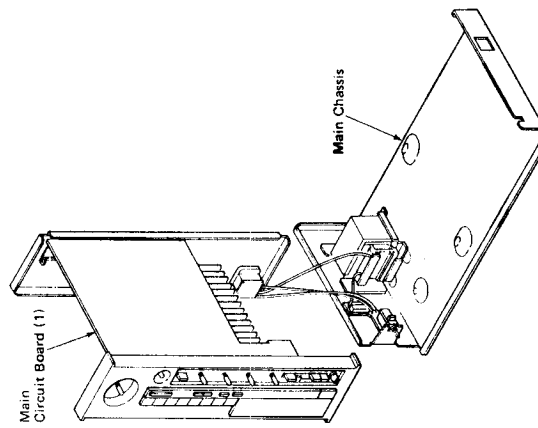

Fig. 2
- c. Remove the Main Chassis as shown in Fig. 2. In this condition it is possible for you check the Main Circuit Board (1) and replace the parts.